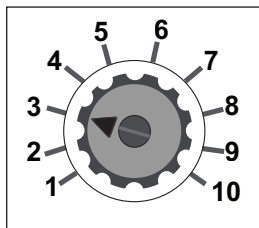

Figure 4: Run Time Dial
- Adjust the run time dial using the Pump Sizing and Dial Setting guide. See Figure 4.